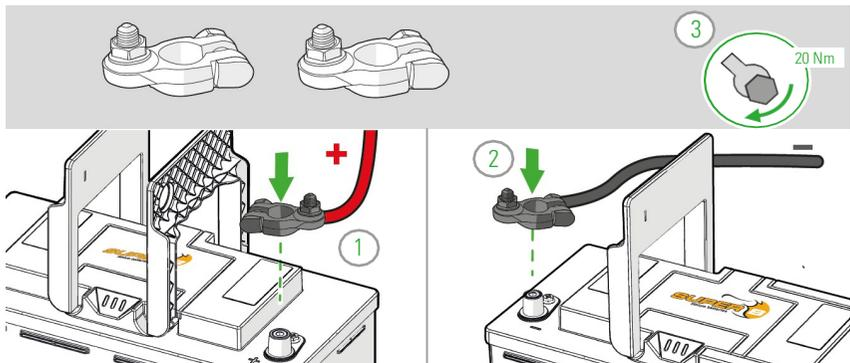

Figure 12. Connecting power-cables with automotive type terminals
7. Place the handle covers over the terminals (Figure 12).
4. Place the handle covers over the terminals (Figure 12).